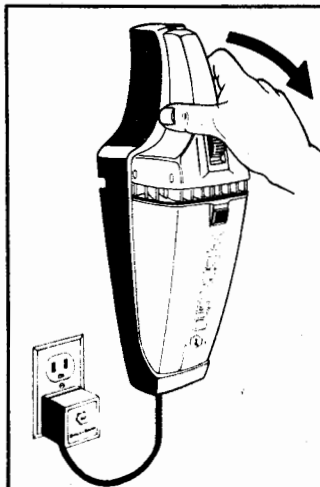

Fig. 6
1. Remove the **Dustbuster** from the charging bracket by gripping middle of handle and gently pulling unit from bracket (Figure 6).